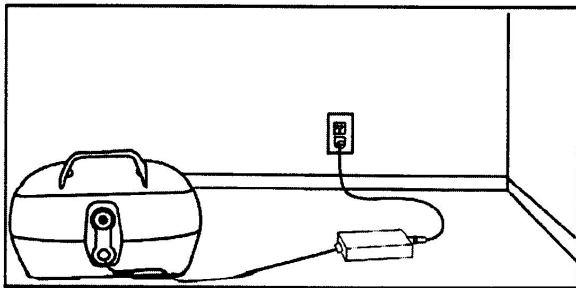

Figure 13. Charging The Batteries
1. Position your Travel Scooter or battery pack close to a standard electrical outlet. See figure 13.